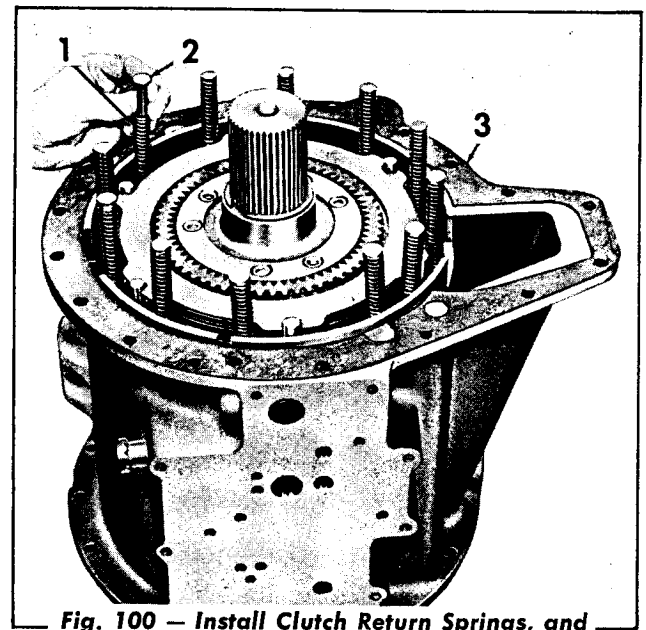

Fig. 100 – Install Clutch Return Springs, and High and Low Range Clutch Anchor
1. Clutch Return Spring (12)
16. Install the twelve clutch return springs (Fig. 100) and the guide pins into their recesses in the high and low range clutch anchor. Install the gasket. All springs should be of